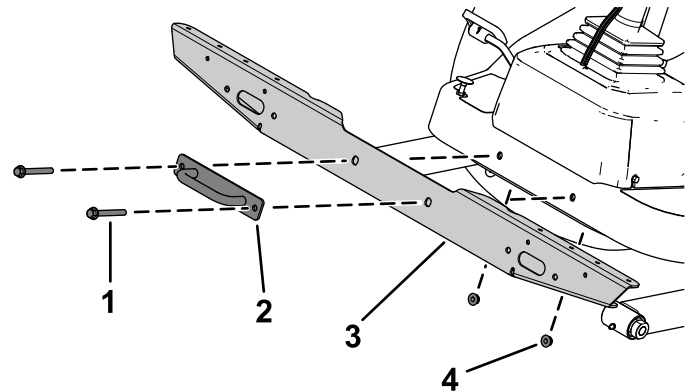

**Figure 11**
1. Remove the tie-down bracket from the platform (Figure 11).